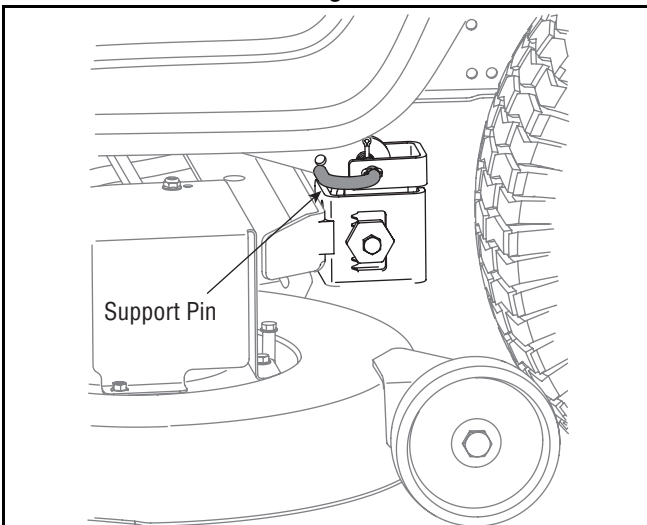

Figure 22
- Looking at the cutting deck from the left side of the tractor, locate the deck support pin on the rear left side of the deck. See Figure 22.